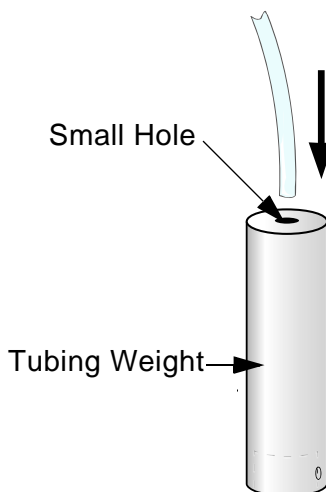

Figure B-1. Assembly of Tubing Weight and Line
5. Push the tubing end through the small hole in the top of one of the tubing weights until the tubing extends through the opposite end (see Figure B-1).